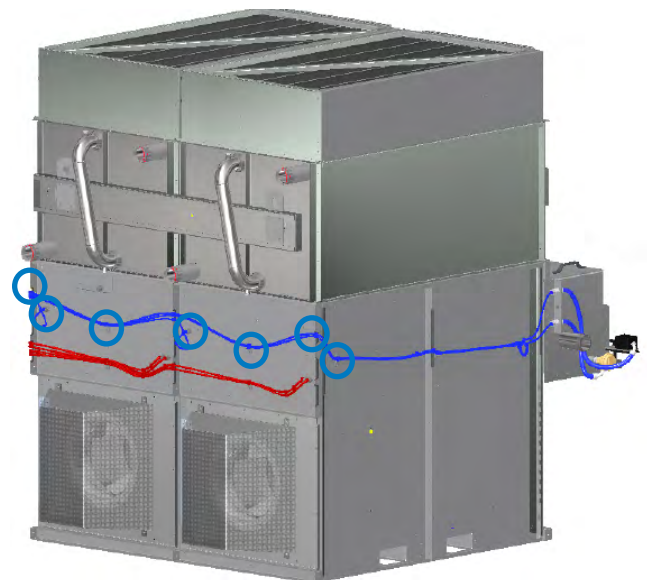

Figure 15. Fan Communication Wire and Component Wire Routing
3. Pull the fan communication wire through the first notch and the wire mount alongside with the component wire. Secure the wire with zip ties. The conductivity sensor, drain valve, and fan communication wire run together to the control panel. See **Figure 15 on page 14**.